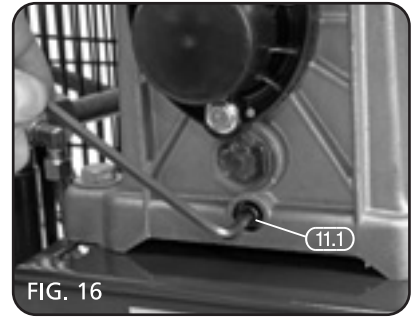

FIG. 16
11.4 OPERATIONS TO BE CARRIED OUT EVERY 6 MONTHS – FIGS 16 - 18